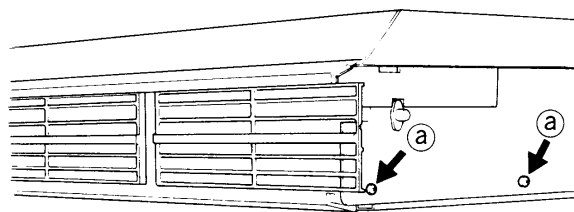

Fig. 7
- 5 ) Remove the four screws (a) at the lower part on both sides. Fig. 7